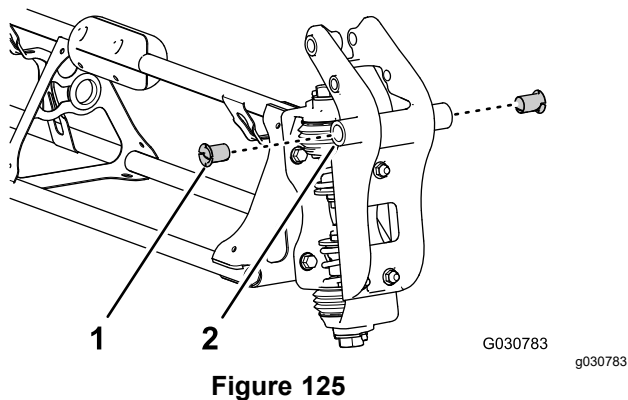

Figure 125
2. Insert a nylon-flange bushing into the 31.8 mm (1-1/4 inches) hole at each side of the pivot fitting (Figure 125).